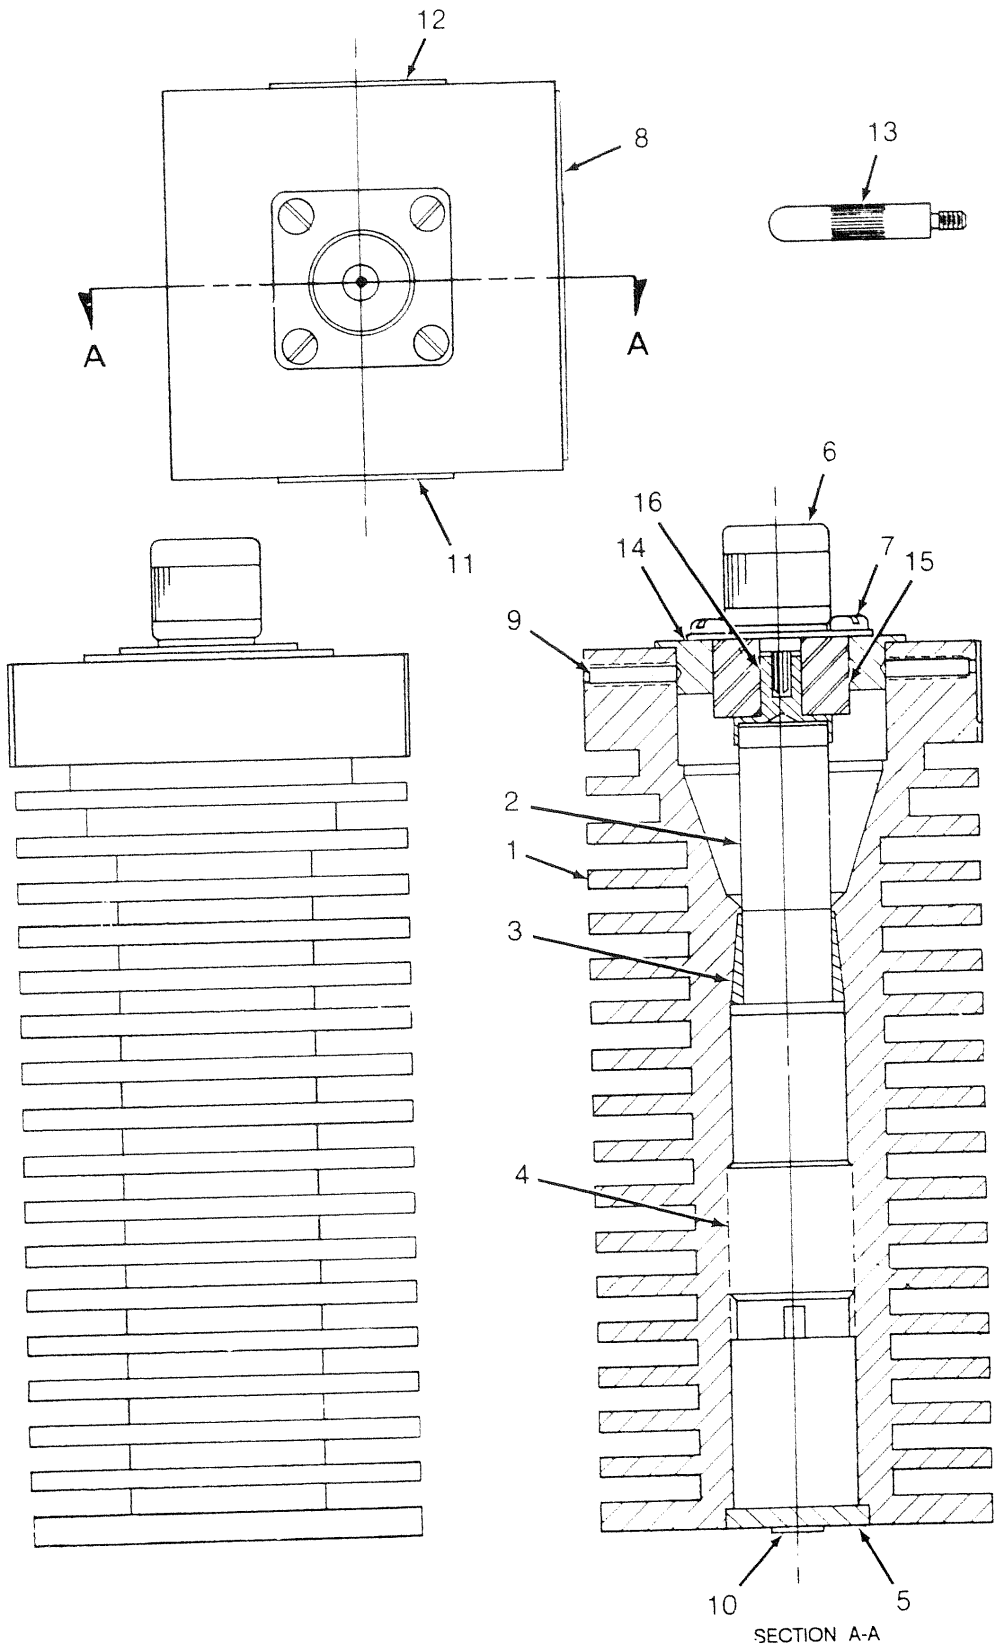

FIGURE 1. MODEL 8164-045 TERMALINE® LOAD RESISTOR
Figure 1 is a parts illustration of the Coaxial Load Resistor. Along with the illustration is a parts list containing all of the replaceable components of the Coaxial Load Resistor. If a part is found to be defective, and is not contained in this list, it is not available for replacement and the assembly to which it belongs must be replaced. The parts list is broken down into the following column structure:
- a. INDEX NO. The numbers in this column identify the location of parts within an illustration. For example, the INDEX NO. 1-3 describes item 3 located with Figure 1.
LEGEND FIGURE 1